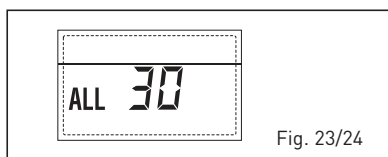

Fig. 23/24
- **ANOMALIA SONDA MANDATA CASCATTA "ALL 31" (fig. 23/25)**